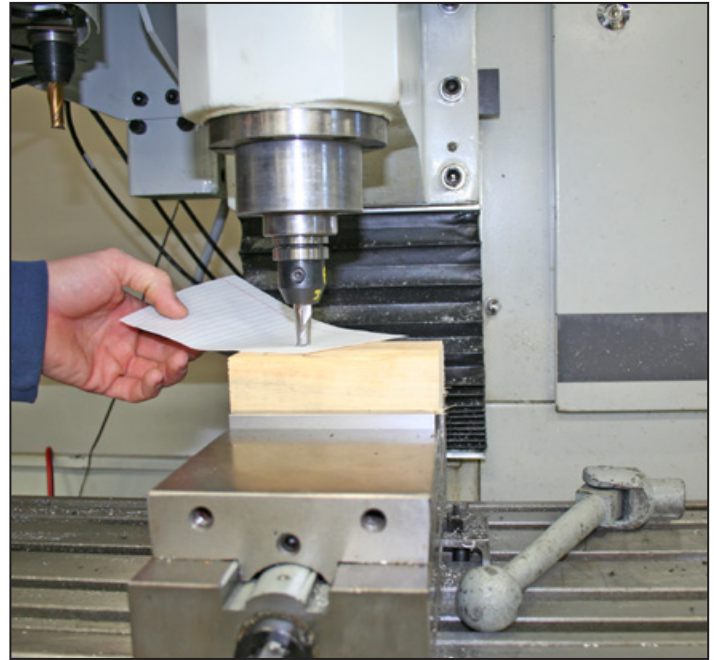

Figure 5.7
2. Jog the mill down so that the tool just touches the top of the 2" x 4" (see **Figure 5.7**).